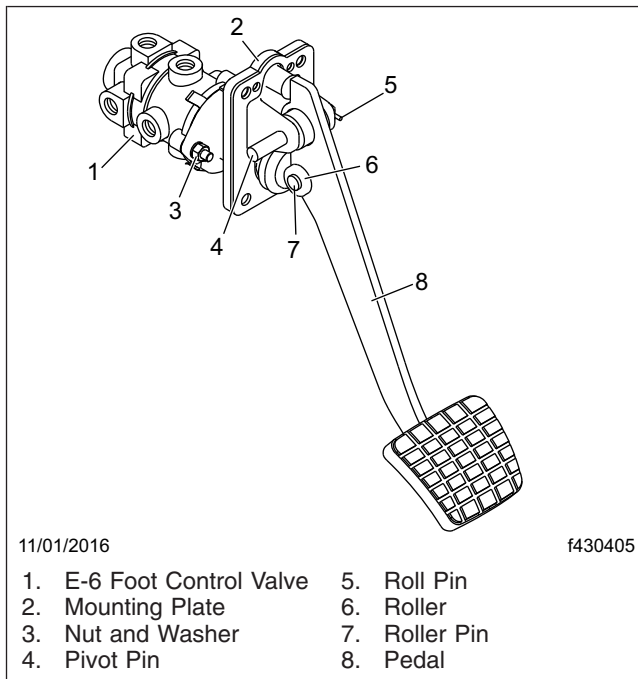

Fig. 13, Brake Pedal and Valve Assembly
2. Remove the roll pin from the brake pedal pivot pin. See **Fig. 13**.